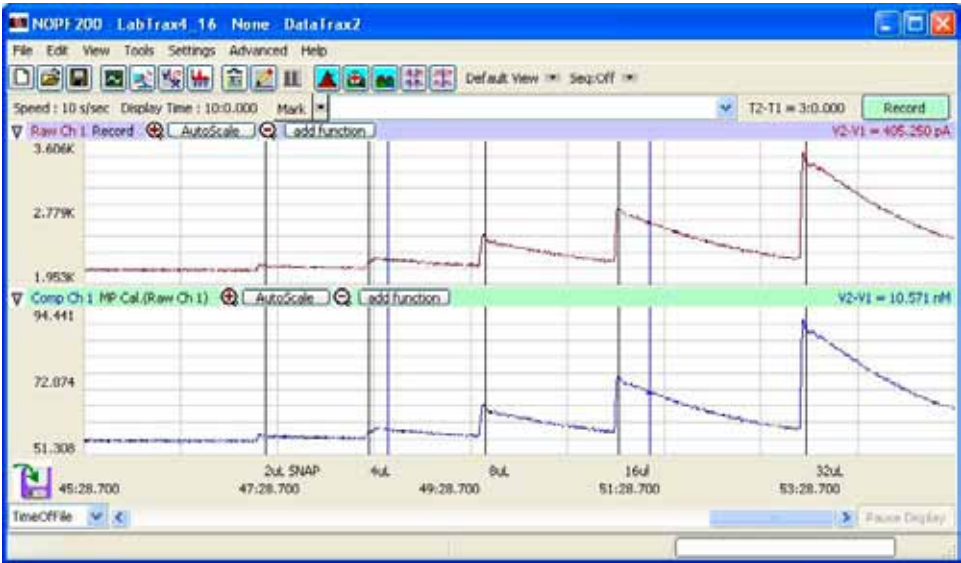

Fig. 48 — Raw Data in channel 1, Calibrated data in comparison channel (top left)
- The final calibration results appear at the bottom of the recording on the Data-Trax main page as a comparison channel (**Fig. 48**).
Figure 48 shows the raw data recording of NO on the Apollo 1000 in channel 1 and the calibrated comparison beneath it. If desired, the graph can be filtered or smoothed.
4. Click the **OK** button. A new comparison channel displays at the bottom of the main Data-Trax window. When applied to the raw data in Figure 48, a typical Hamming filter generates a less noisy output trace similar to the raw data in channel (Fig. 51).